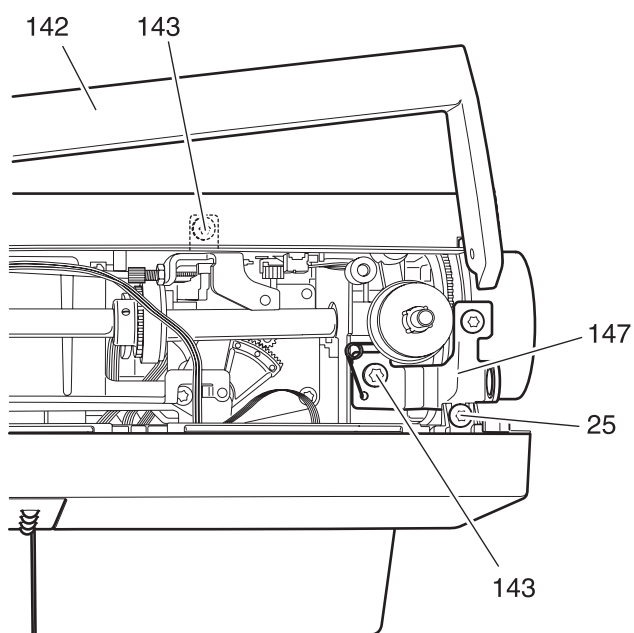

Fig. 92
- Loosen screw 25 (fig. 92).
- Remove the bracket 147 complete (fig. 92).